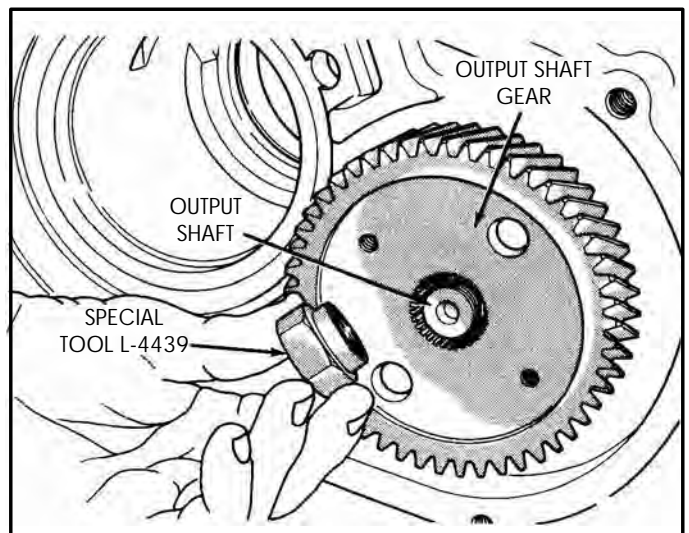

Figure 176
3. Install the output shaft gear and start onto the splines using special tool L-4439, as shown in Figure 176.